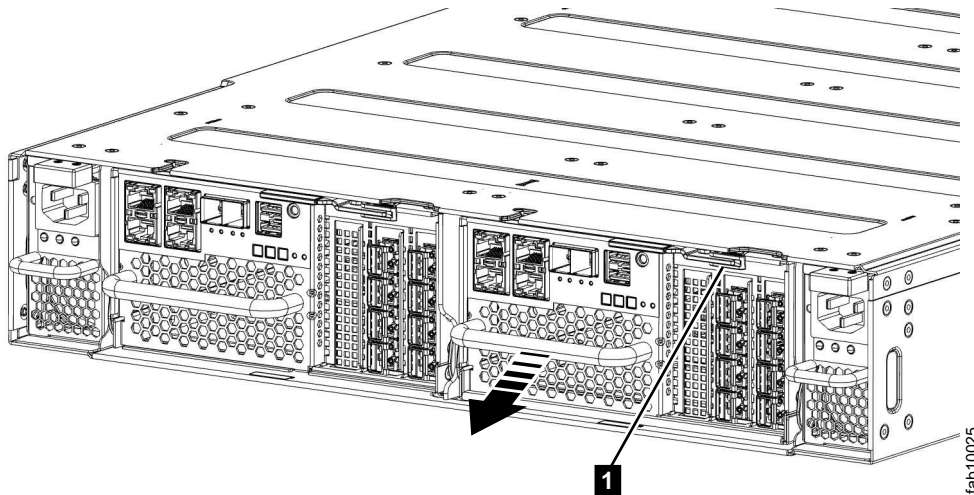

Figure 17. Removing a node canister
6. On the canister, unlatch the release lever and pull it open (see Figure 17 on page 98). The canister moves out of the slot approximately 0.6 cm (0.25 inch). Be careful that you do not inadvertently disturb or remove any cables that are connected to other components of the system.